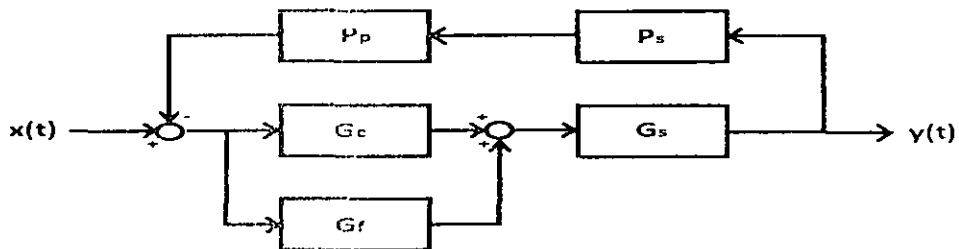

Figure 1. Block diagram of a hypothetical control system in steady-state.
- b. A model of a given system has an input $x(t)$ and output $y(t)$ with a disturbance (δx) producing a change in the output (δy). The system employs feedforwards and feedbacks to improve its performance. In steady state, the system components attain the gains indicated in Figure 1 below. Derive an expression for the following:
- ii. The loop gain (LG) (2 marks)